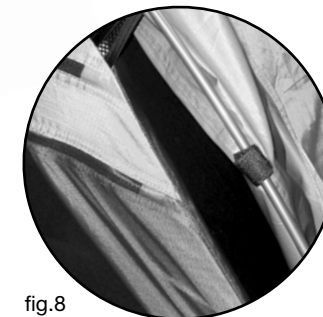

fig.8
- Turn the fly right side up and drape it on the tent with the Eureka! logo over the door. Reach under the fly and wrap each Velcro® strap around a pole. See fig.8.